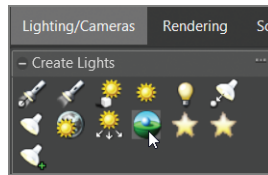

FIGURE 16.32
11. Choose Lighting/Cameras > Create Lights > mr Sky Portal (Figure 16.32).